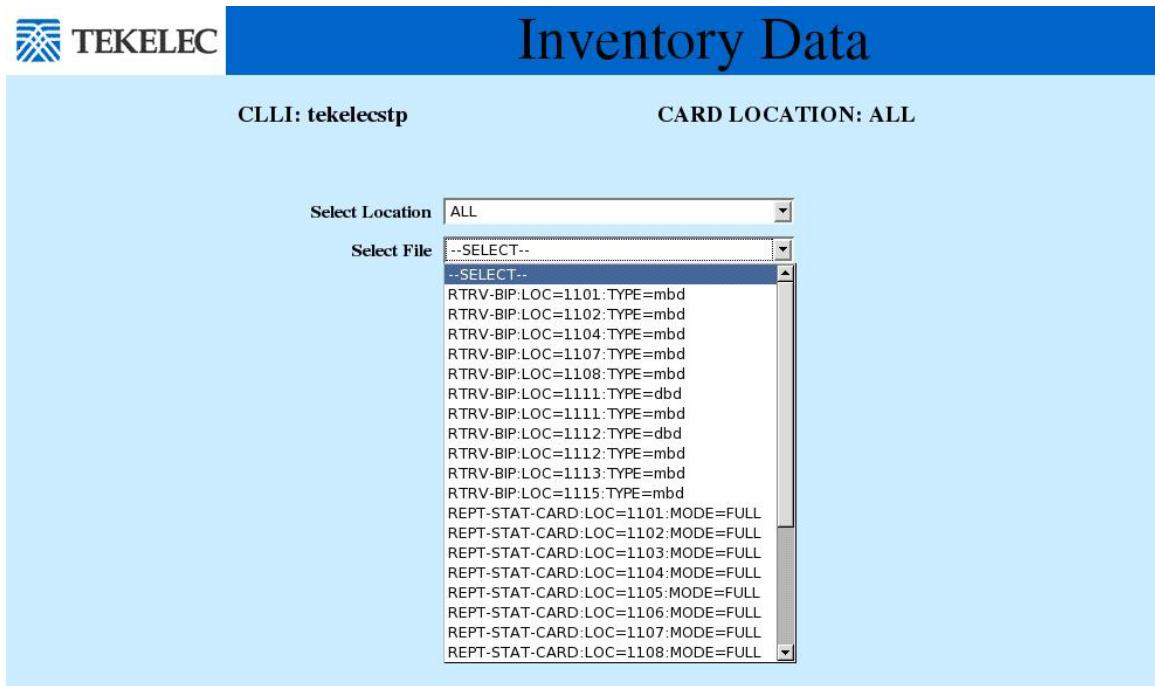

Figure 105: Inventory File List
- A listing of all card locations for which one or more inventory files are available (see Figure 105: Inventory File List)